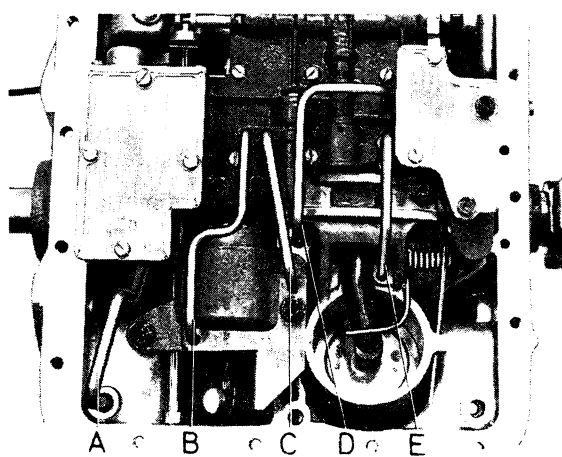

Fig. 4-71. Oil tubes
5. Fit the throttle cable to the cam. Mount the oil tubes as shown in Fig. 4-71. Check that the magnetic element lies in the oil sump and fit the sump. Use a new gasket. Coat the threads on the oil drain plug with sealing fluid 277961 and then fit the plug.
3. Unscrew the bolts for the oil pan and remove this. Lever out the oil tubes carefully as shown in Fig. 4-71.